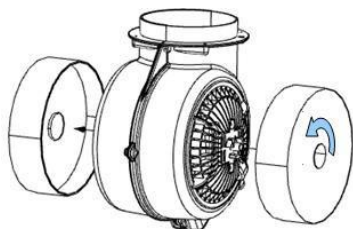
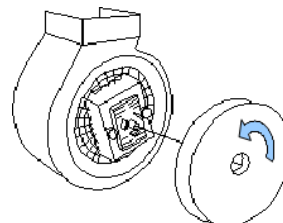

Fig. 7
Fig. 8
Nero Eco 320, Nero Line Eco 320 , Tryton Eco 320, Juno Eco 320, Clarus Eco 320, and Balance Eco 320 kitchen hoods have one active charcoal filter Fig. 8 Soft
Active charcoal filter replacement (Fig. 7, Fig. 8)
4. Remove the grease filter located inside the kitchen hood on both sides of the fan housing (Fig. 7) or one filter on the fan housing front side Fig. 8 by rotating it counterclockwise,